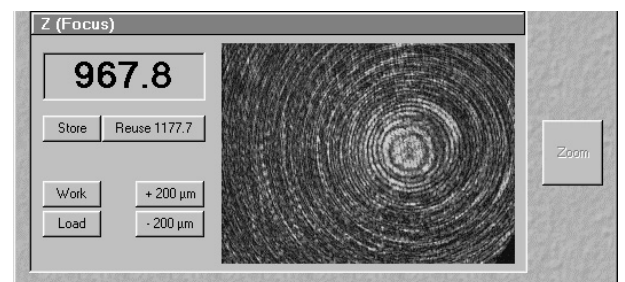

Fig. 5-168 Camera image far away from the lower cover slip surface
- The camera window shows interference fringes caused by the laser light (Fig. 5-168).